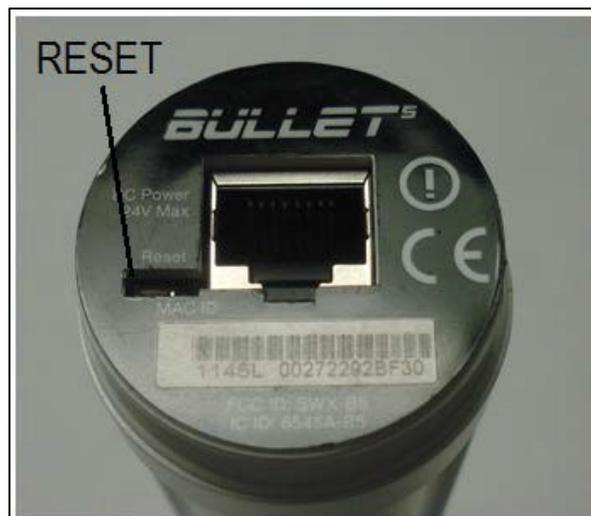

Figure 16. Bullet5 Reset Switch
- a. See Figure 16. You will need a small device like the end of a small paper clip to depress the Bullet Reset switch.